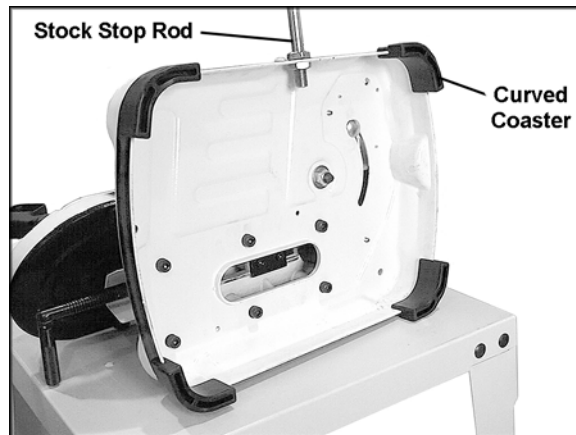
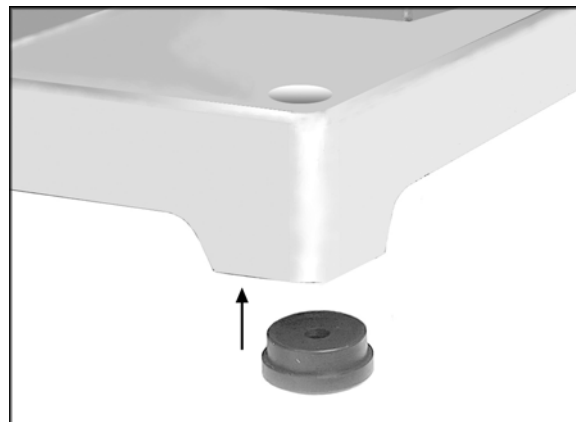

Figure 2
Figure 3
The band saw can be operated without securing it to a table or workbench, using the four coasters provided. **Model PB-85:** Place the band saw on its side and install the four curved coasters (Figure 2) by pushing them onto the bottom edges as shown. **Model PB-150:** push the four round coasters into the circular recesses beneath the cast iron base (Figure 3).
With the band saw still resting on its side, install the stock stop. See Figure 2.
2. Re-install the outer hex nut onto the threads of the rod from inside the base, as shown in Figure 2.